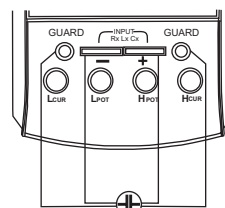

Figure 10
- a. Insert the positive polarity of capacitance into the positive terminal and its negative polarity into the negative terminal (shown in figure 10);